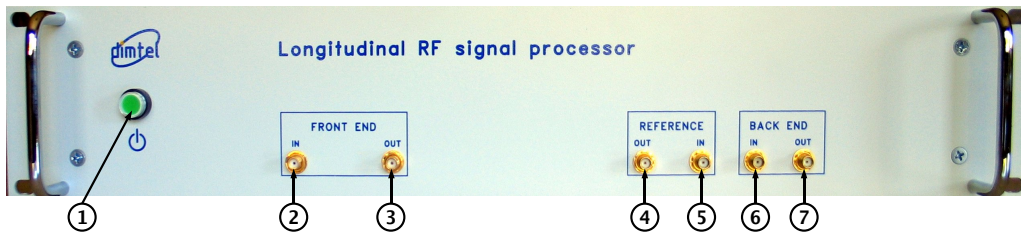

Figure 2: Front panel features
2. Connect radio frequency (RF) clock at 0 dBm nominal level (Fig. 2, item 5);
3. Connect the reference output (Fig. 2, item 4) to the CLK input of the iGp;
4. Connect the front-end input (Fig. 2, item 2) to the beam signal at the appropriate level;
5. Connect the front-end output (Fig. 2, item 3) to the IN+ or IN- of the iGp. Terminate the unused iGp input with a wideband 50 Ω SMA terminator;
6. Connect the back-end input (Fig. 2, item 6) to the OUT+ or OUT- of the iGp. Terminate the unused iGp output with a wideband 50 Ω SMA terminator;
7. Connect the back-end output (Fig. 2, item 7) to the power amplifier input;
9. Push the power button (Fig 2, item 1) to turn on the system;